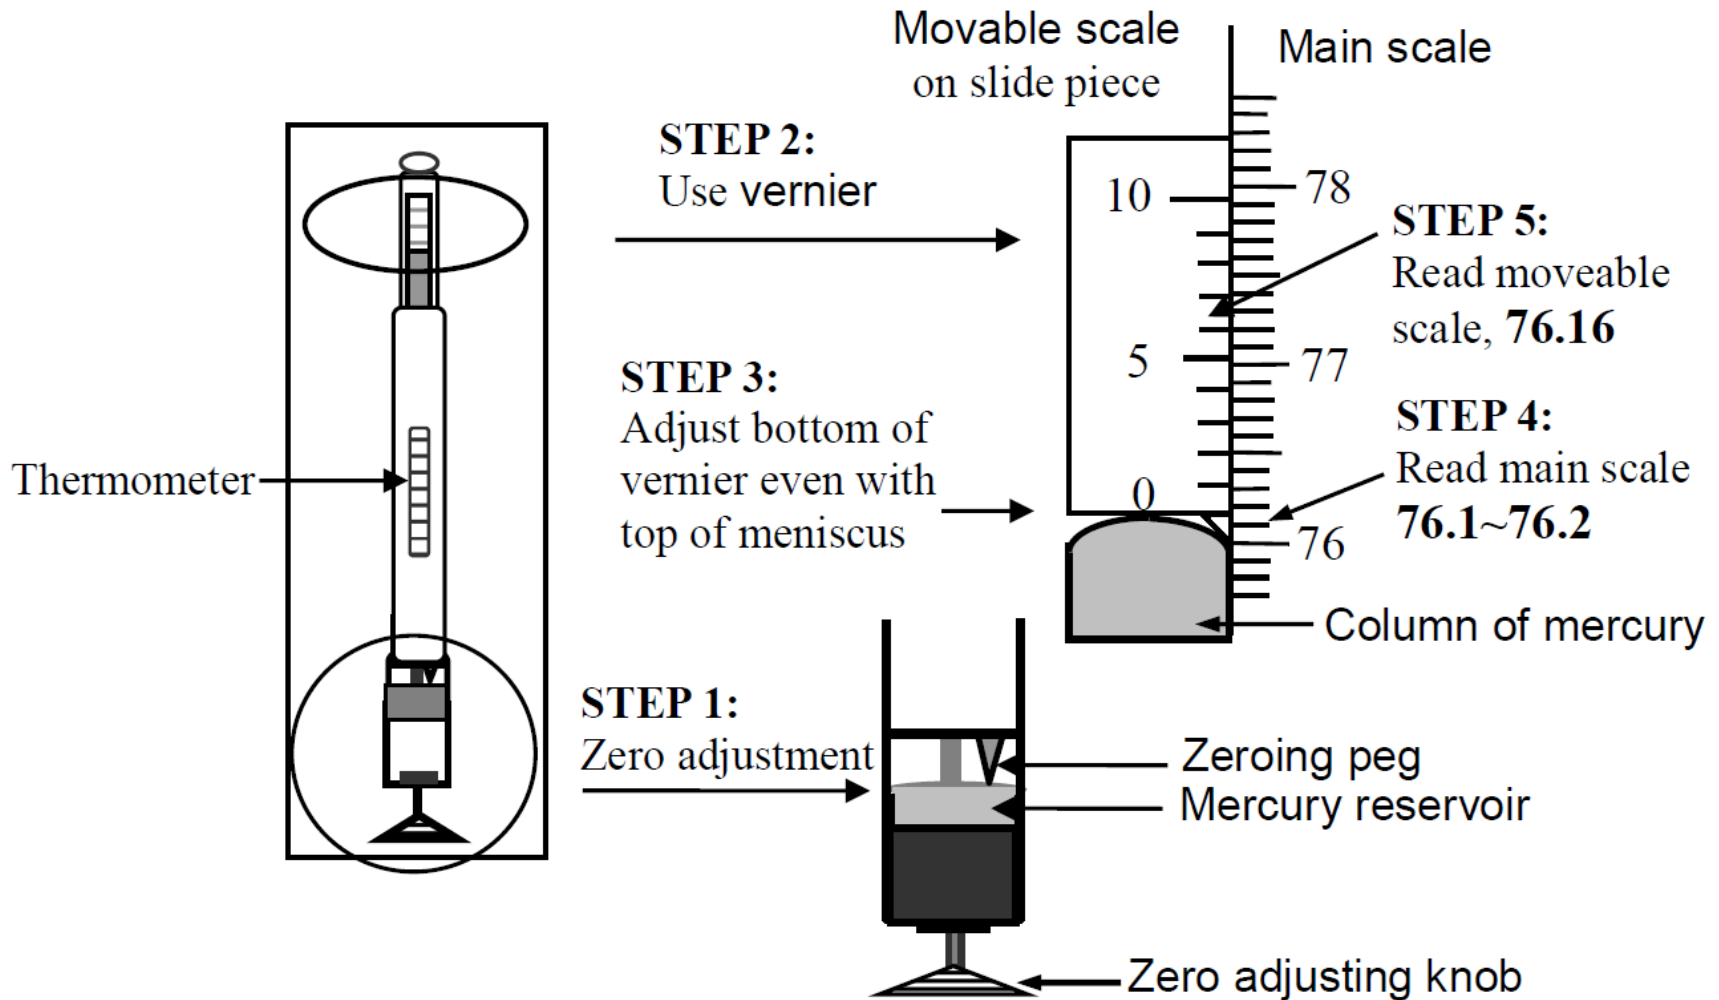

Figure T3-1 Illustration of mercury barometer
2. Read the main scale on the right: In Figure T3-1, the bottom of the slide piece indicates the height of mercury column is between 76.1 and 76.2 cm
3. Read the movable scale on the left: The percentile of measurement is given by the line that aligns with the mark on the main scale. This value is 6 in Figure T3-1, therefore the measured atmospheric pressure is 76.16 cm-Hg